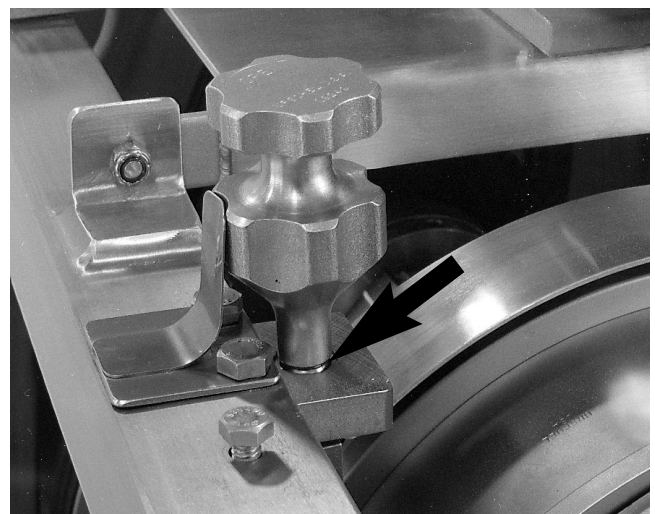

Figure 19 — Slice adjustment bearing
The machine has a total of twelve (12) lubrication points. The dicing unit has eight (8) grease fittings and the drive bracket has three (3) (Figure 18). Some machines have a shear pin hub, which also has a grease fitting. Lubricate the bearing in the slice adjustment with a drop of oil immediately after the machine has been cleaned (Figure 19).